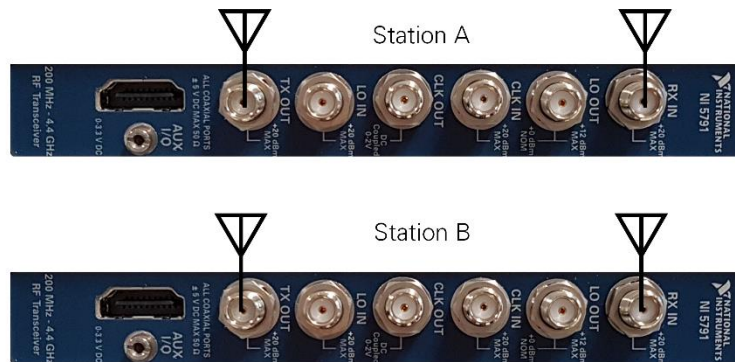

Figure 5 Antenna Connection for FlexRIO/FlexRIO Adapter Module Devices
2. Create the following RF connections as shown in Figure 5: